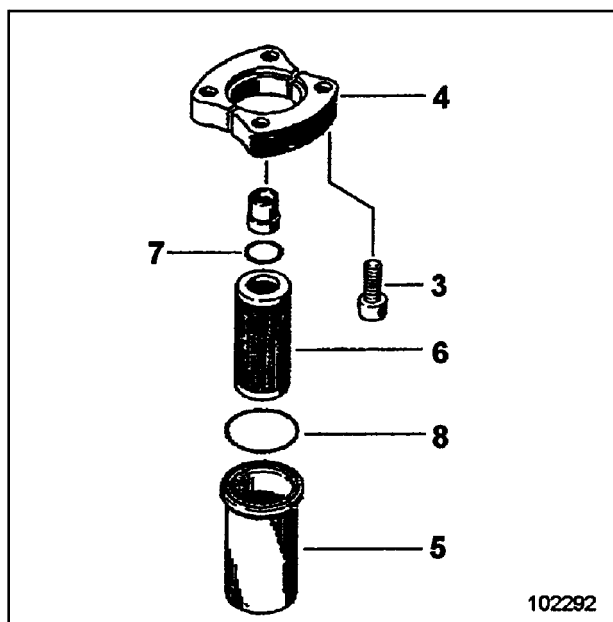

Fig. 19
- Detach flange (4, Fig. 19).
- Withdraw filter element (6) from filter housing (5).
- Insert new filter element into filter housing (5) and refit to filter head with a new, lightly oiled sealing ring (8).
- Install new filter element (6, Fig. 19) and re-assemble with a new, lightly oiled sealing ring (7).